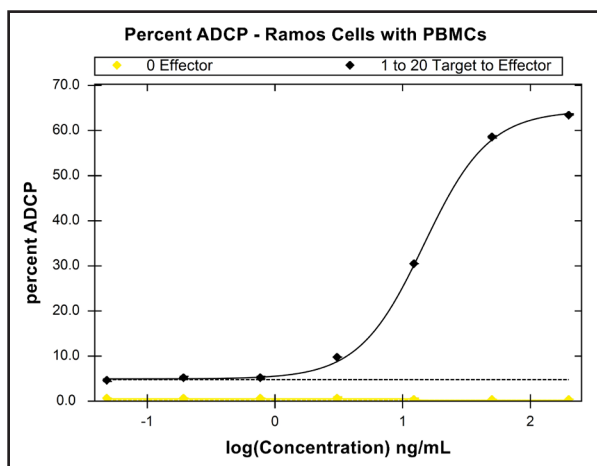

Figure 5: Percent ADCP for 1:20 target-to-effector ratio.
- 6.8 Percent ADCP is calculated from CD14+ population as a percent of Encoded (see Figure 5).